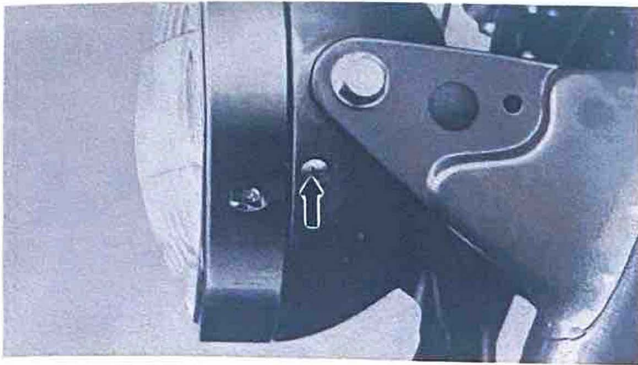

Fig. 27
14. Remove the Phillips head screw from the left side of the headlight body. Insert a slotted head screwdriver between the headlight body and the headlight rim, pry out the lens assembly. (Fig. 27)